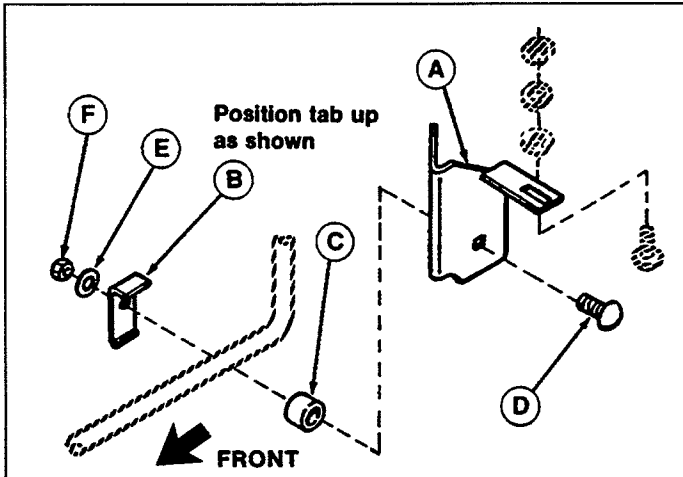

Figure 2.
3. See figure 2. Install baffle assy. (A) to the stone guard (underneath mower deck) using U-bracket (B), spacer (C) carriage bolt (D), lockwasher (E) and nut (F). Reuse hardware removed in step 2 to secure tab on baffle assy. to mower deck. Remove arbor cover.